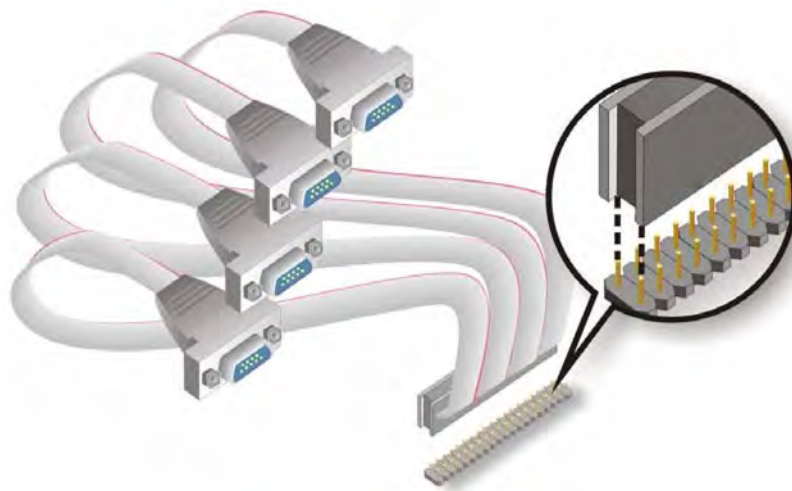

Figure 5-11: Four Serial Port Connector Cable Connection
Step 2: Align the connectors. Correctly align pin 1 on the cable connector with pin 1 on the 3301825 keyboard/mouse connector. See **Figure 5-11**.
Step 3: Insert the cable connectors Once the cable connector is properly aligned with the keyboard/mouse connector on the 3301825, connect the cable connector to the onboard connectors. See **Figure 5-11**.